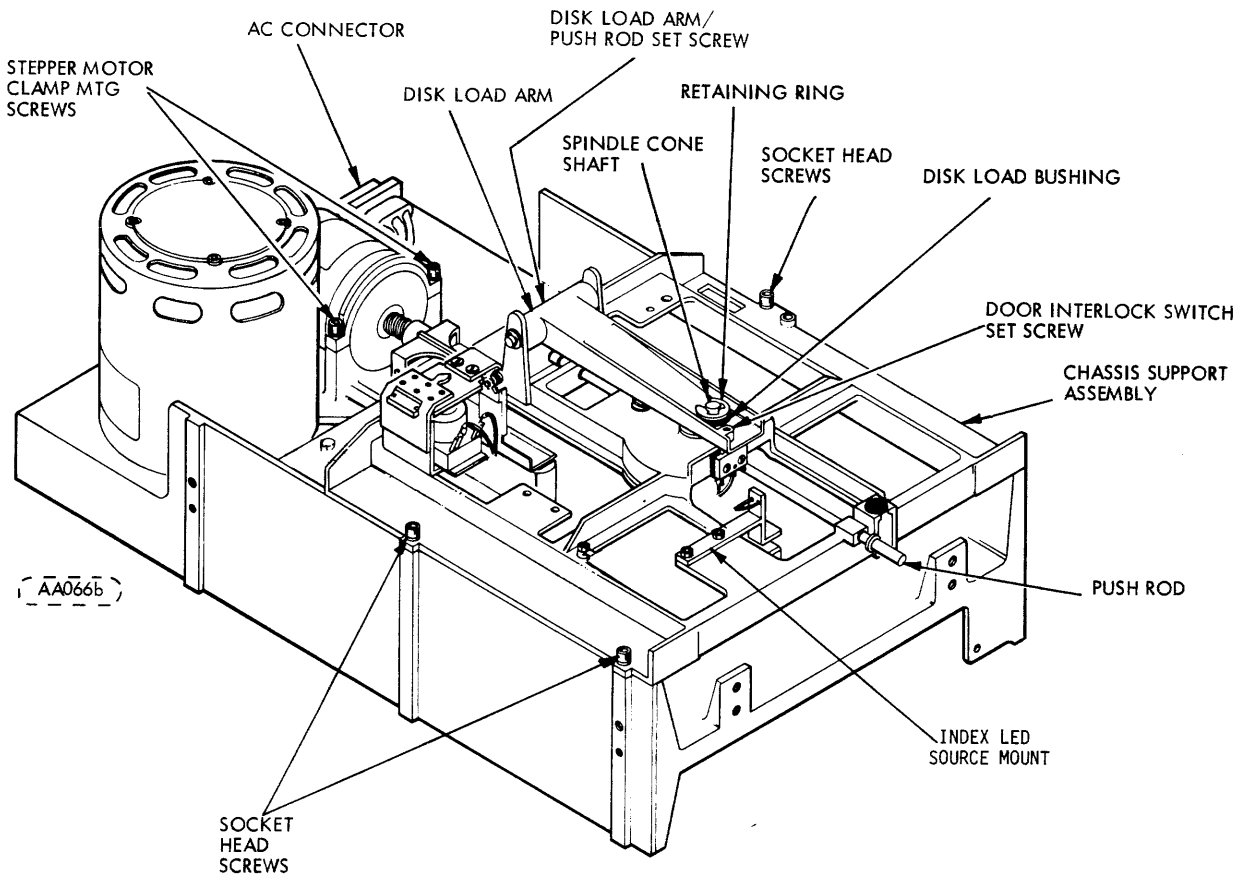

FIGURE 6-9. CHASSIS BASE ASSEMBLY
- f. Adjust the analog index pulse width to: greater than 1.6 ms for soft-sector applications, or 1.7 ± 0.1 ms for hard-sector applications. To make this adjustment, connect channel 2 of the scope to J3-04 and change the time base to 0.5 ms/div. Loosen the mounting screws on the Index LED Source Mount located on the top plate assembly (refer to Figure 6-9). Adjust the position of the LED mount until the analog Index pulse width observed on the scope is greater than 1.6 ms for soft sector or 1.7 ± 0.1 ms for hard sector, measured at the 50% amplitude point. Replace channel 2 of the scope to J1-20 and verify that the Write Splice-to-Index time is still $450 \pm 100 \mu$ s. Readjust if necessary.
- h. If not in alignment, loosen the stepper motor clamp mounting screws to where a gap exists between the clamp and casting (see Figure 6-9) and slowly rotate the stepper motor to adjust the amplitude until the amplitude of both lobes is the same, that is, the difference between the bottoms of both lobes is less than 5 mV.
This procedure must be performed whenever chassis support (Figure 6-9) is removed and replaced.
- a. With front panel door closed, verify that a gap exists between the retaining ring and the disk load bushing between 0.025 and 0.045 in. (0.635 and 0.143 mm) (refer to Figure 6-9). Perform Steps b and c if out of adjustment.
- c. Adjust disk load arm set screw (Figure 6-9) until gap is approximately 0.030 in. (0.762 mm), with door closed.
- b. With door closed, adjust set-screw at end of disk load arm (Figure 6-9) while holding door closed against metal stop. Adjust set-screw until micro-switch is almost adjusted flush to top of switch case. This ensures that as the nylon tips on the push-rod wear down, the switch will still close.
- a. Loosen chassis support assembly (Figure 6-9).
- d. Secure socket head screws (Figure 6-9).
- b. To adjust, loosen the two hex-head screws holding the sensor mount in place. With the front panel door open, push down on the disk load arm (Figure 6-9) to insure that the disk is in the loaded position. At the same time, grasp the end of the envelope and move from side-to-side, and forward and backward while observing the WRITE-PROTECT signal at U5 pin 4/R36-East. Adjust the mount until the WRITE-PROTECT signal is present for any position of the envelope.
- c. Remove four (4) socket-head screws securing chassis support (Figure 6-9).
- d. Slide chassis support back far enough to clear push rod (Figure 6-9) of front panel and lift support clear of chassis.